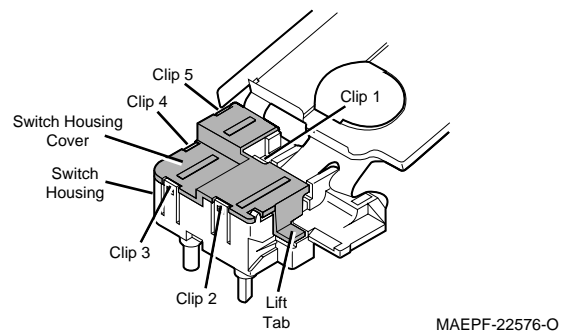

Figure 40-10.
- a. Five retaining clips hold the switch housing cover to the switch housing. Clips 1, 2, and 3 are important during disassembly (see Figure 40-10).